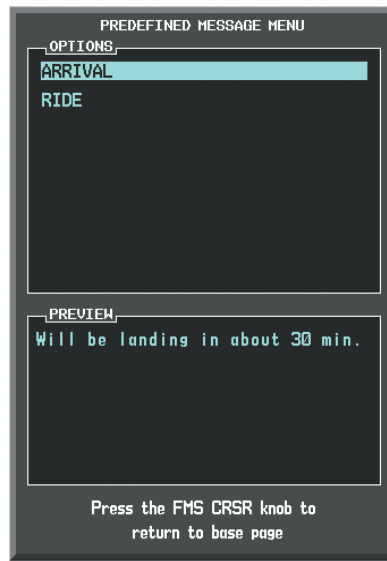

Figure 8-91 Predefined Message List
- 4) Press the **PREDEFD** Softkey. The PREDEFINED MESSAGE MENU Window is displayed as seen in Figure 8-91.